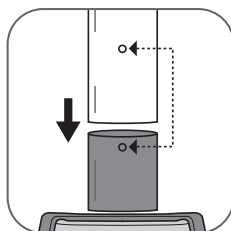

fig. 3
3. Insert the handle into the base by pressing downwards until the holes of the handle and base are at the same level, so that you can put the screw back. If the holes are not aligned, check that the clips of the handle are well and truly unlocked. (fig. 3)